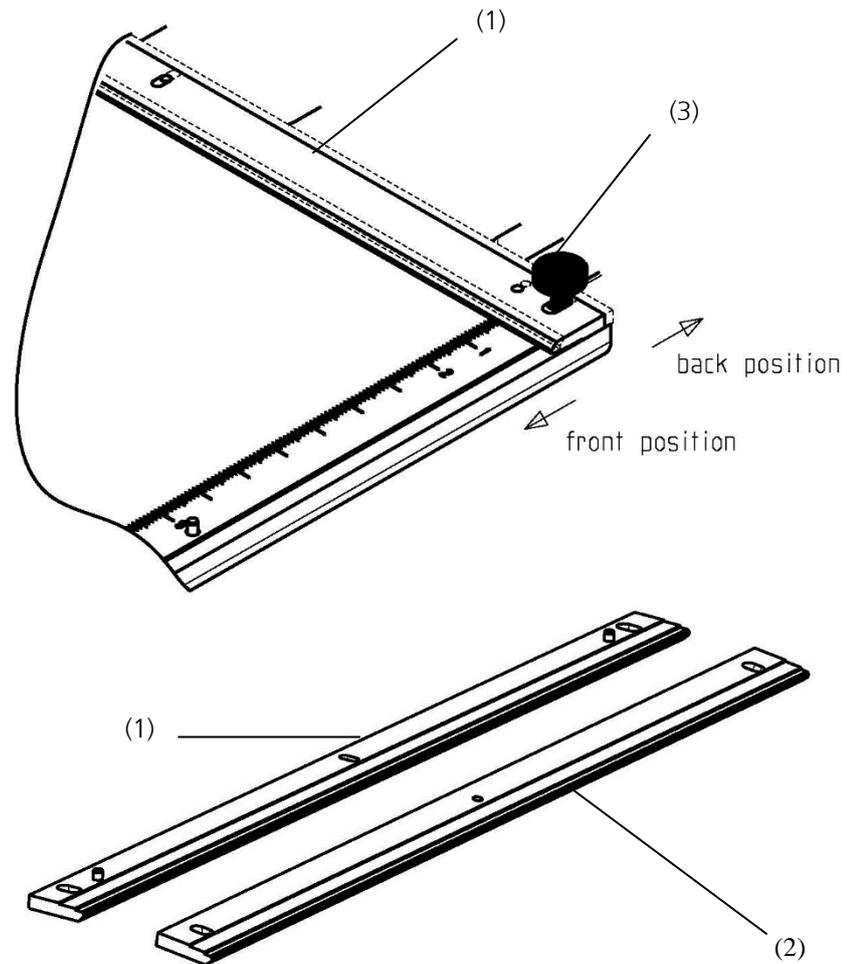

Fig. 6: Exchanging Foil-holder/Plate-stopper
- When mainly TLC/HPTLC foils are used, replace the standard plate stopper (2) with the special foil holder 115.6217 (1). Fig.6
- To replace the standard plate stopper remove the two knurled screws (3) and take out the plate-stopper. Then mount and screw on the optional foil-holder.